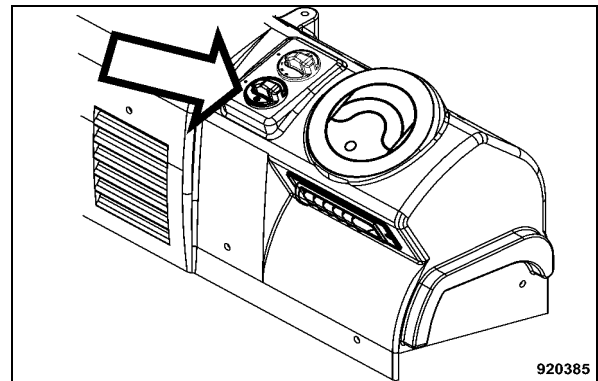

Fig. 146
- Choose a cooling temperature with the rotary switch for the air conditioning system (Fig. 146) in the blue section.